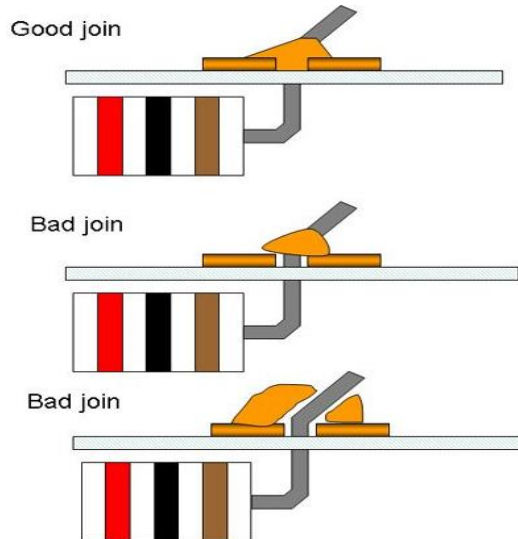

Fig. 3.33 Inspect the joint closely
- If the connection looks bad, reheat it and try again as shown in Figure 3.33.